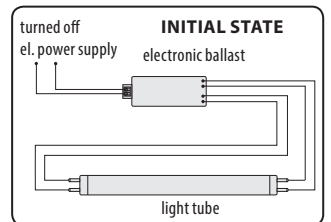

Fig. 3A
- In the case of light fixtures that contain an **electronic ballast**, it is necessary to remove the electronic ballast prior to using the LED tube according to figure 3A to 3C (this task may, however, only be performed by a person with the necessary electrical qualifications. After removing the electronic ballast, it is no longer possible to replace the LED tube with a fluorescent light tube. Upon disconnection of the electronic ballast, the LED tube is connected single-sided.